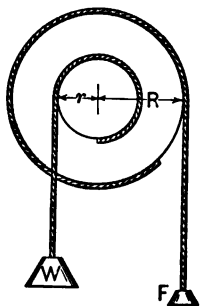

FIG. 5.
The wheel and axle, Fig. 5, is a modified lever. It consists of a wheel and axle rigidly fastened together to turn about a common axis. It is evident that the radius of the axle (r), is the weight arm, and the radius of the wheel, R , is the force arm. The wheel may be replaced by a crank, as in the windlass.
8. In Fig. 5 r is 4 inches and R is 12 inches and there is no friction, What force will be required to balance 600 lb. at W ? If $\frac{1}{2}$ of the work done on the machine is lost in friction, how much weight will this same force lift? In the second case what is the efficiency?